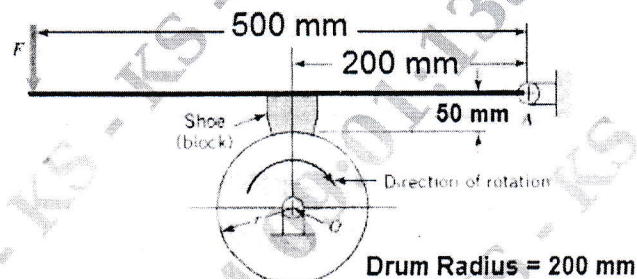

Fig.Q8
- 8 A single block brake with a torque capacity of 250 N-m is shown in Fig.Q8. The brake drum rotates at 100 rpm. Coefficient of friction is 0.35. Calculate: